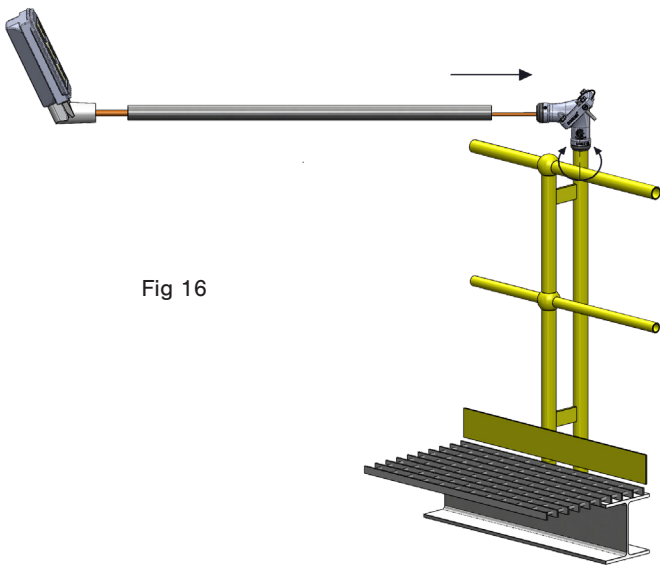

Fig 16
- ☐ Using the existing pole top or the new R2 pole top, feed through the cable and slip into the Maxis™ joint. (Fig 16)